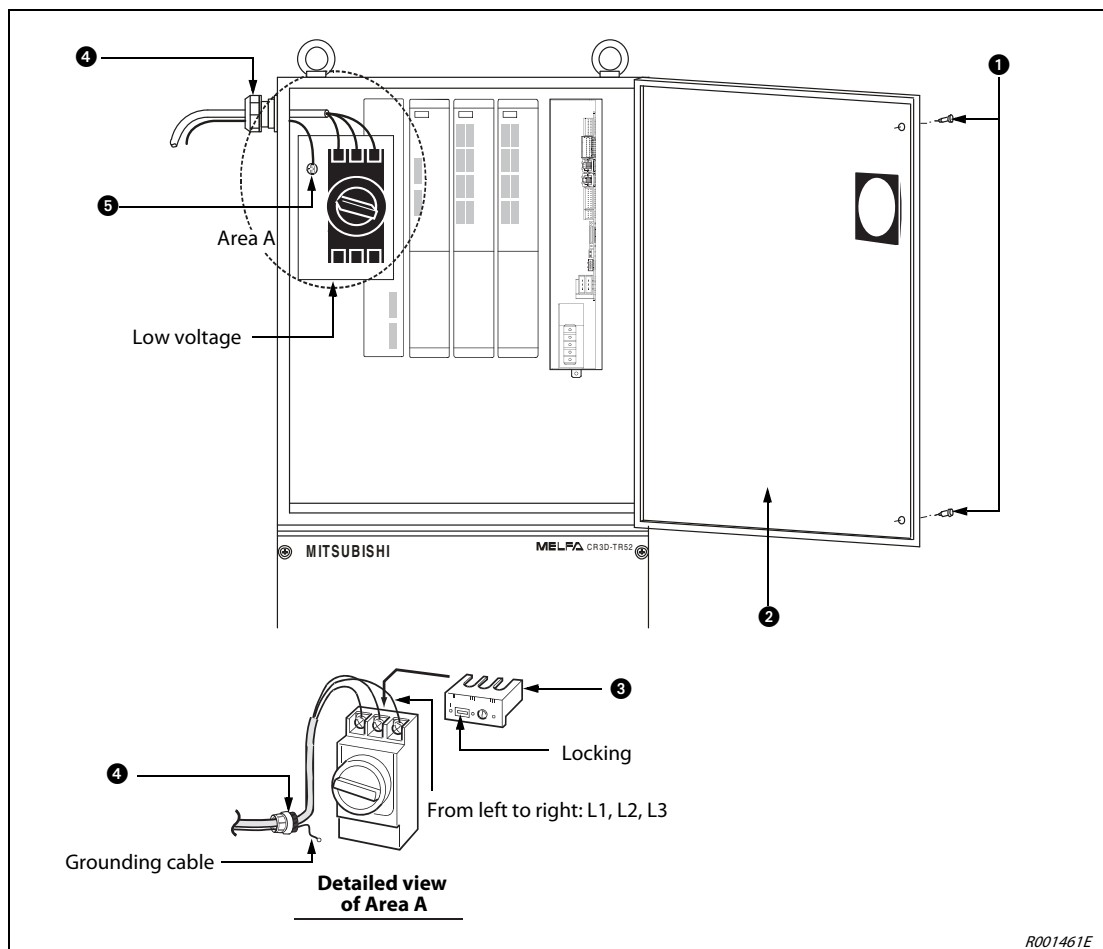

Fig. 4-6: Connection of mains line and grounding on control unit CR3D and on drive unit DU3
- ① Make sure that the mains voltage and the power switch of the control unit or the drive unit are switched off.
- ② Release the two screws ① of the door ②, rotate the [POWER] switch to the "OFF" position and open the door.
- ③ Remove the terminal cover ③ of the power switch by pressing the lock upwards and then remove the cover.
- ④ Prepare the mains line (feed) and the grounding cable. Use cable with a minimum cross-section of 2.5 mm².
- ⑤ Release the cable connection on the side ④ and lead the mains line and the grounding cable through the cable connection.
- ⑥ Connect the mains line to the terminals of the power switch according to Fig. 4-6 .
- ⑦ Connect the grounding cable with the ground connection ⑤ (M5-screw) to the low-voltage board.
- ⑧ Fix the terminal cover ③ of the power switch back into place. You will hear a click when it locks in.
- ⑨ Tighten the cable connection.
- ⑩ Close the door of the control unit ②. You will hear a click when the door locks on. Fix the door with the screws ①.